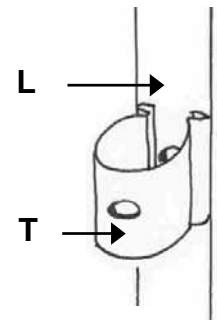

Figure 1
A springlock cage is made of two lengths of ribbon. The first one (the "transversal cage", marked as T on the figures) has its two ends sewn to the edges of the second ribbon (the "longitudinal loop", marked as L on the figures), so as to wrap snugly around the barrel of the springlock and hold it aligned lengthwise with this second ribbon. The longitudinal loop wraps over the top and bottom of the springlock and its two ends are sewn to the garment, pack or other piece of gear as close as possible to and, if possible, on either side of the hole where the cord comes out of its sleeve. Each ribbon has a hole in it allowing the cord to pass through (Figure 1).
- D. Sew the ends of the transversal cage to the edges of the longitudinal loop, approximately in the middle of it, as shown in Figure 1 and 6